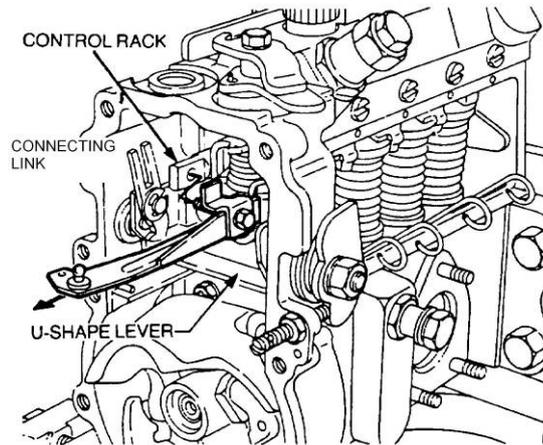

Figure 91 Removal of the Connecting Link
- n.** Using two spanners (8 and 10 mm), remove the nut securing the connecting link to the control rack, then remove the connecting link, complete with the bolt and plate (Figure 91).